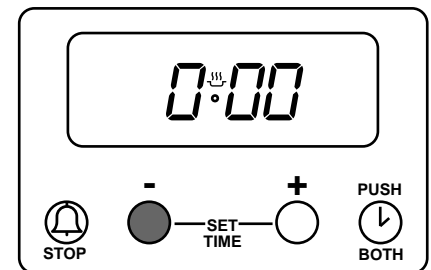

Fig. 6.6
To set, press button (1) and the display will read  $0^{\text{M}}:00$ , see Fig. 6.6.